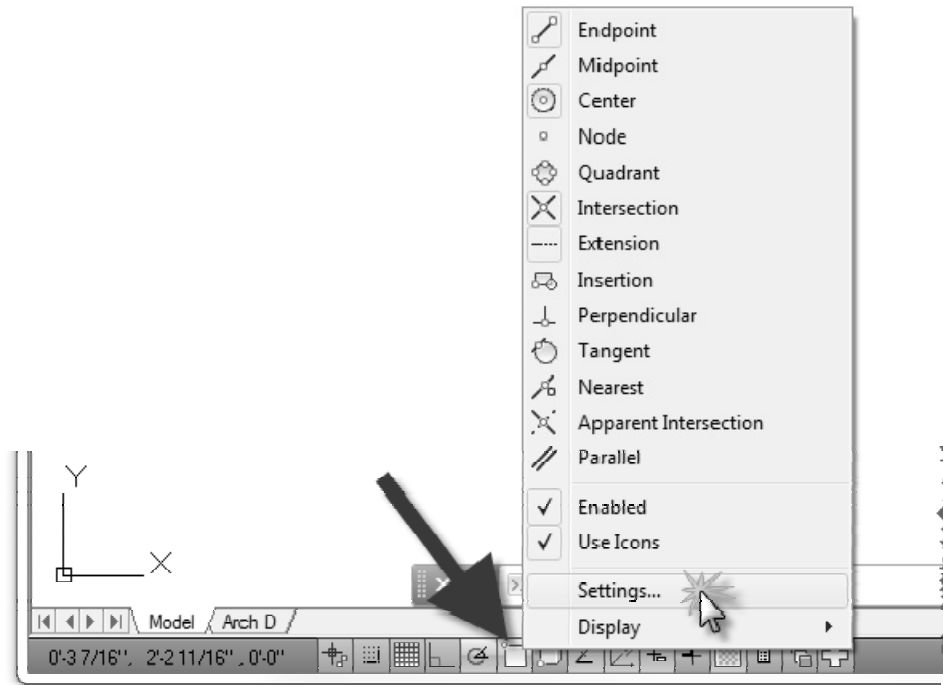

FIGURE 2-2.4 Right-click on the OSNAP button located on the *Status Bar*
3. Right-click on the *OSNAP* button on the *Status Bar* and select **Settings** from the pop-up menu (Figure 2-2.4).